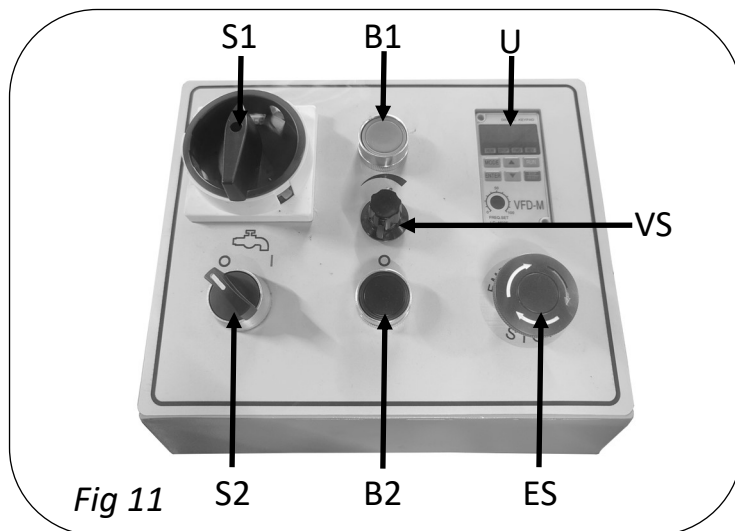

Fig 11
- Ensure the main power switch (S1) is in the off position and connect the bandsaw to the power supply. Fig. 11.
Caution: If for some reason the saw is required to stop immediately, the emergency stop button (ES) shown in Fig.11 should be pressed. The emergency stop will stop all functions of the bandsaw.
1. Turn the coolant pump on via the switch S2. Fig 11.